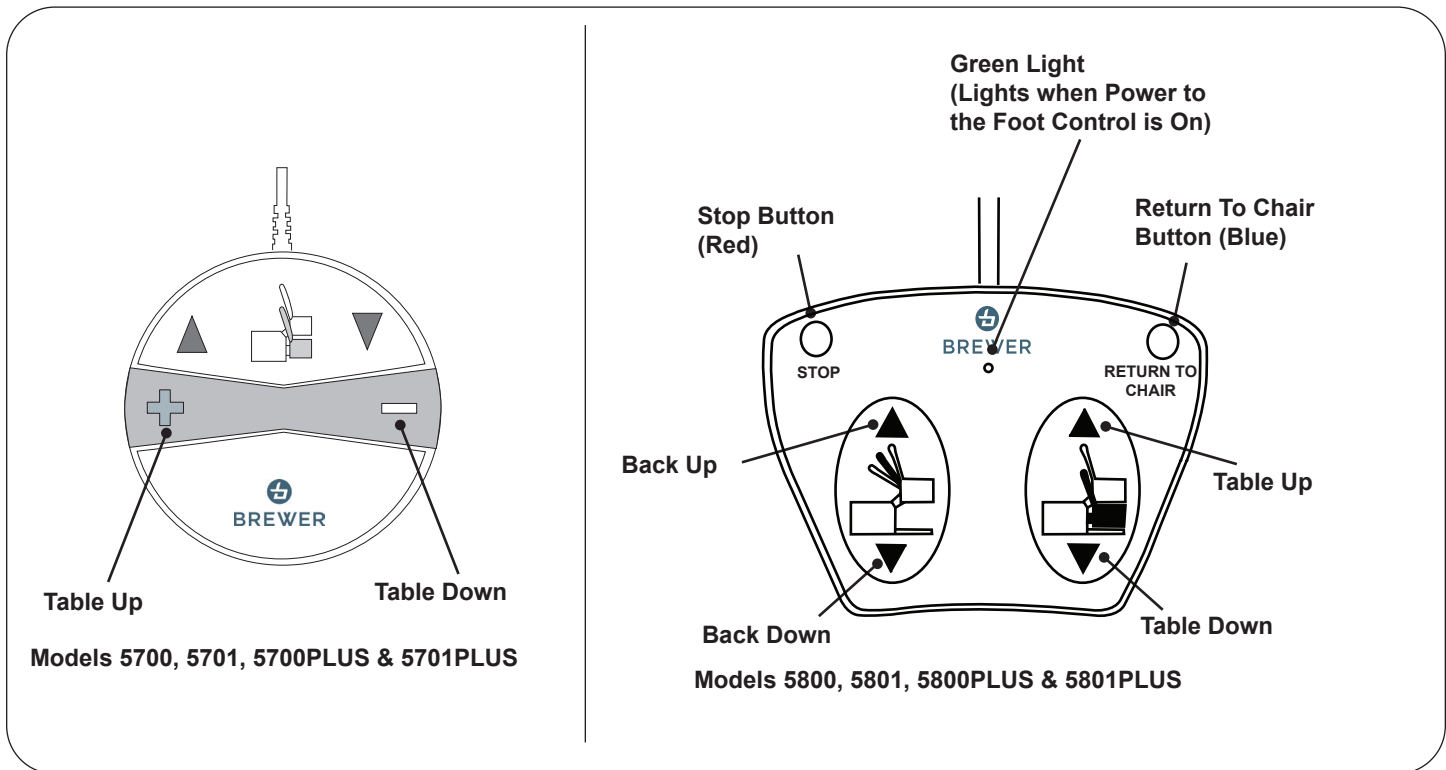
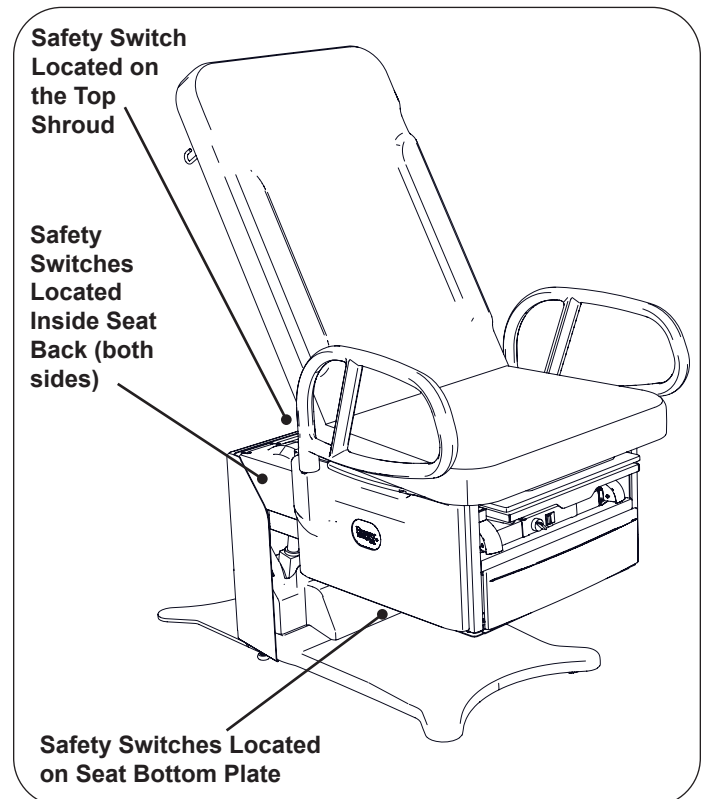

Figure 23. Foot Controls
Figure 24. Seat and Backrest Safety Switches
All models are equipped with switches on the seat bottom (Figure 24) which automatically stop the lowering function of the seat if the seat bottom plate comes into contact with an object as the seat is lowering. To continue lowering the seat, press the "TABLE UP" pedal (Figure 23), clear the obstruction, and continue lowering the seat.
All models are equipped with a switch on the top shroud (Figure 24) which automatically stops the lowering function of the seat and back if the switch is contacted by the backrest. To continue lowering the seat:
- **Models 5800, 5801, 5800PLUS & 5801PLUS** Depress the "BACK UP" pedal (Figure 23) to clear the switch. When clear of the switch, continue lowering the seat.